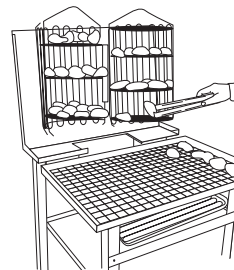

FIGURE 14
8. Unload Basket (Figure 14). Place cooked products on corrugated tray and turn cavity (bone) down where applicable. Place tray in holding cabinet.